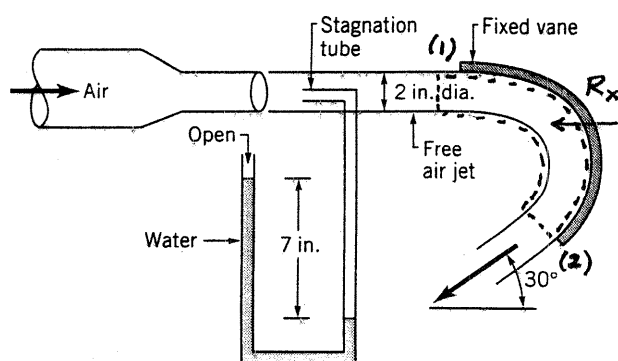

FIGURE P5.62
5.62 Air discharges from a 2-in.-diameter nozzle and strikes a curved vane, which is in a vertical plane as shown in Fig. P5.62. A stagnation tube connected to a water U-tube manometer is located in the free air jet. Determine the horizontal component of the force that the air jet exerts on the vane. Neglect the weight of the air and all friction.